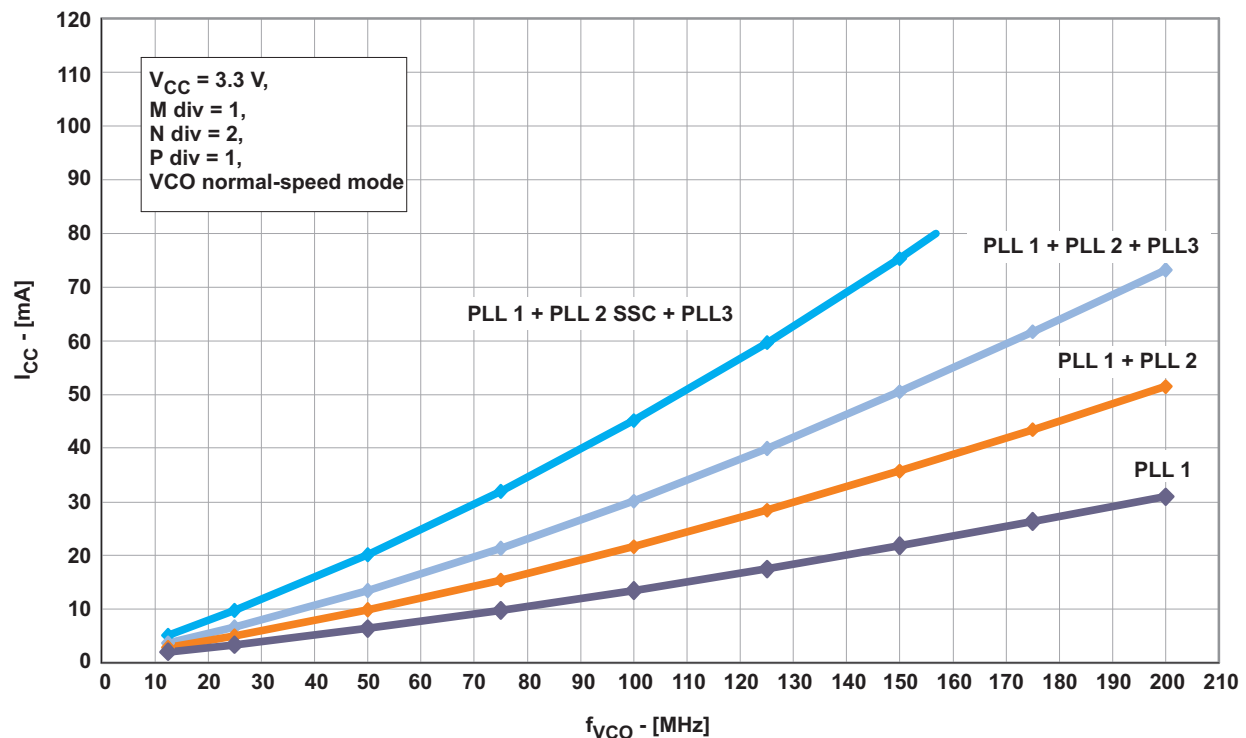
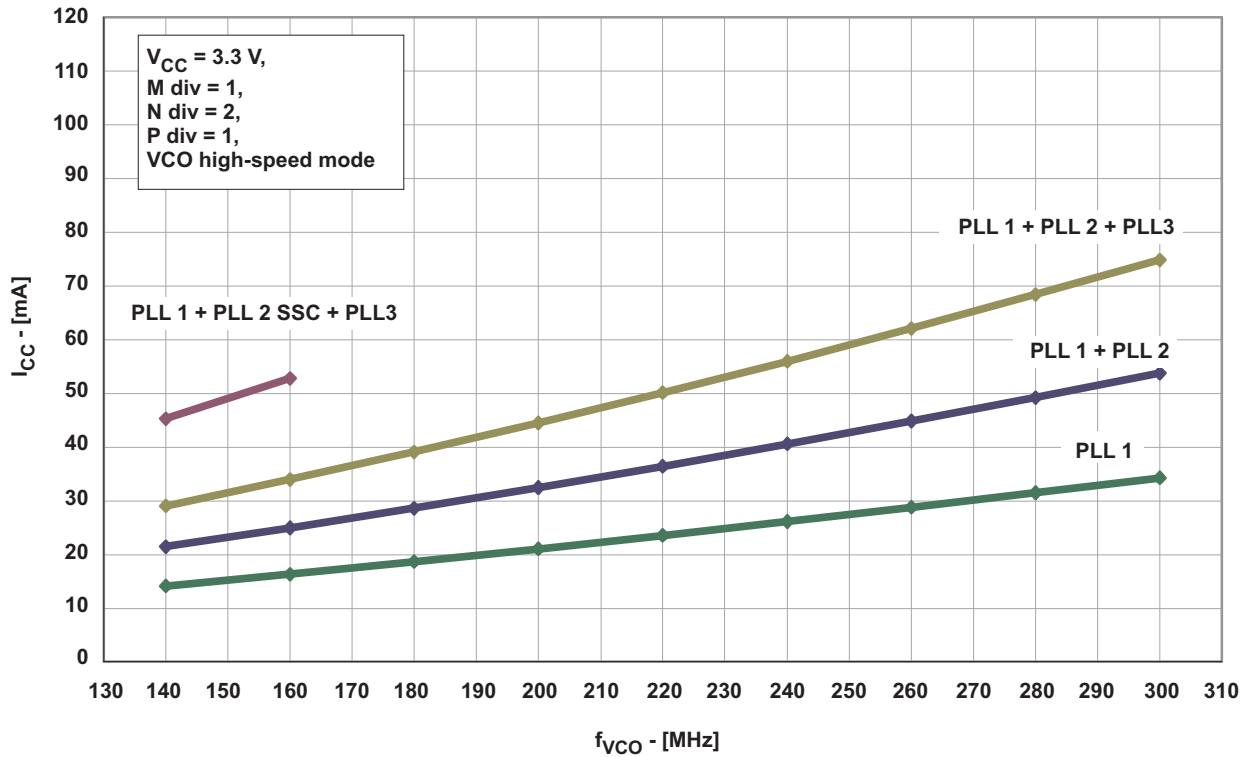
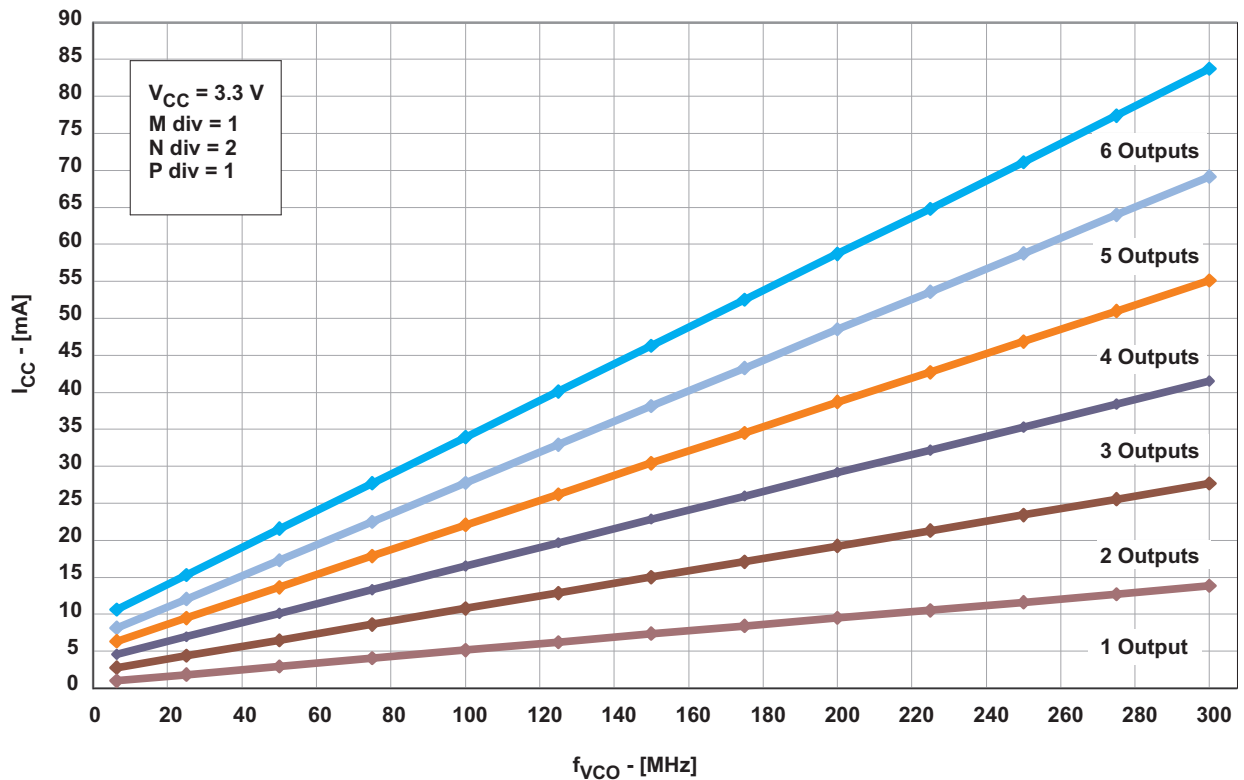
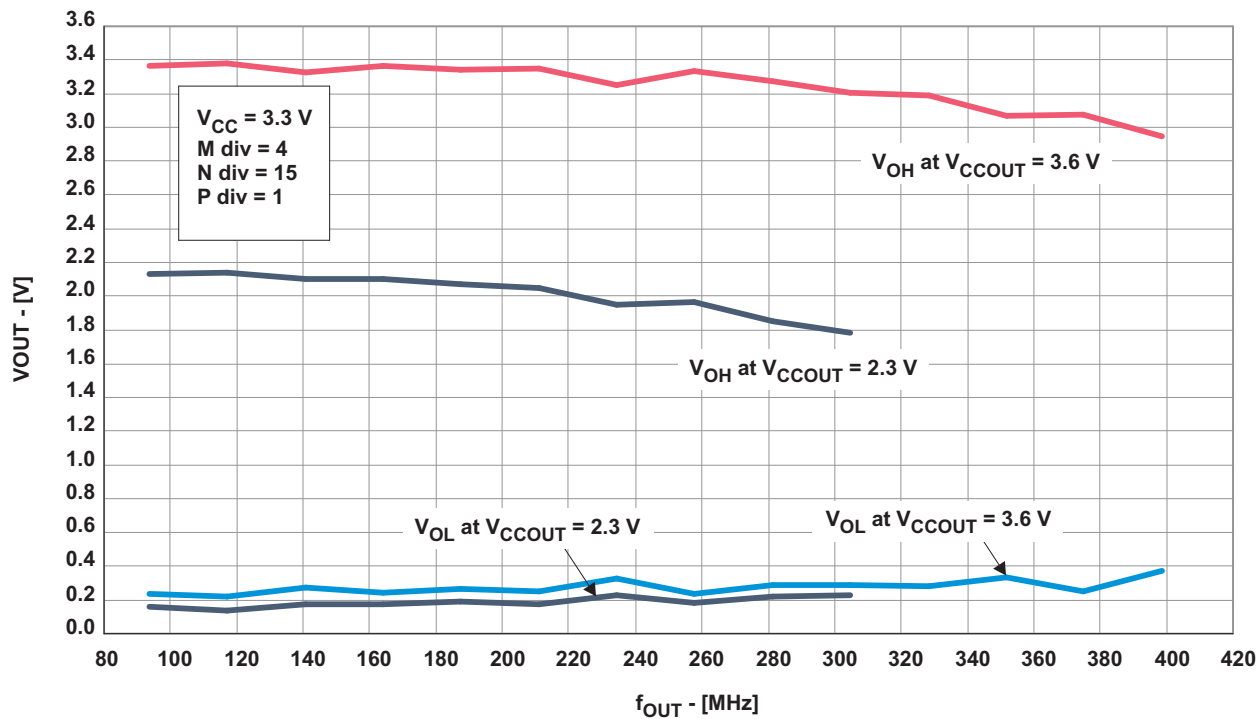

Figure 2.  $I_{CC}$  vs Number of PLLs and VCO Frequency (VCO at Normal-Speed Mode, Byte 6 Bit [7:5])
Figure 3. ICC vs Number of PLLs and VCO Frequency (VCO at High-Speed Mode, Byte 6 Bit [7:5])
Figure 4. ICCOUT vs Number of Outputs and VCO Frequency
Figure 5. Output Swing vs Output Frequency
- (1) All typical values are at respective nominal  $V_{CC}$ .
- (2) For calculating total supply current, add the current from Figure 2, Figure 3, and Figure 4. Using high-speed mode of the VCO reduces the current consumption. See Figure 3.
- (3) Normal-speed mode or high-speed mode must be selected by the VCO frequency selection bit in Byte 6, Bit [7:5]. The min  $f_{(VCO)}$  can be lower but impacts jitter-performance.
- (4) Do not exceed the maximum power dissipation of the 20-pin TSSOP package (600 mW at no air flow). See Figure 5
- (5) 50000 cycles.
- (6) Jitter depends on configuration. Jitter data is normal  $t_r/t_f$ , input frequency = 3.84 MHz,  $f_{(VCO)} = 245.76$  MHz.